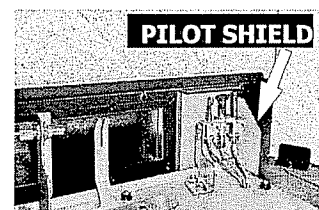

FIGURE 10C
9. **MODEL #936 DV:** Remove the pilot shield and set aside. See figure 10C, page 15.
1. Grasp the board with both hands and place into the unit, lining up the eight 1/4" holes in the board to the (8) mounting studs on the firebox bottom.
**MODEL #936 DV:** Replace the pilot shield, figure 10C.